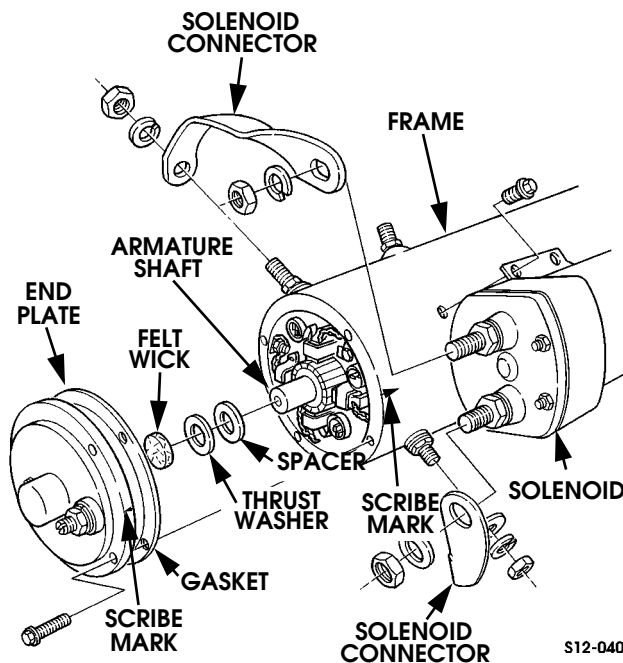

Figure 12-19: End Plate Removal
4. Remove connector nuts and remove solenoid connectors from frame assembly and solenoid (Figure 12-19).